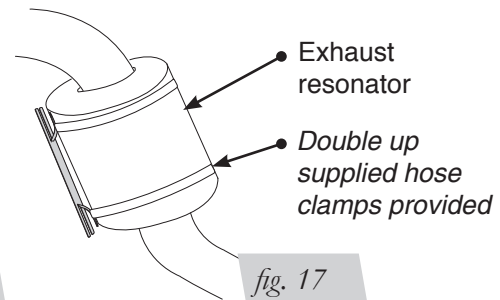

fig. 17
*Some vehicles have large resonators in this area, it will be necessary to double up on the clamps to fit these models (Fig. 17).*